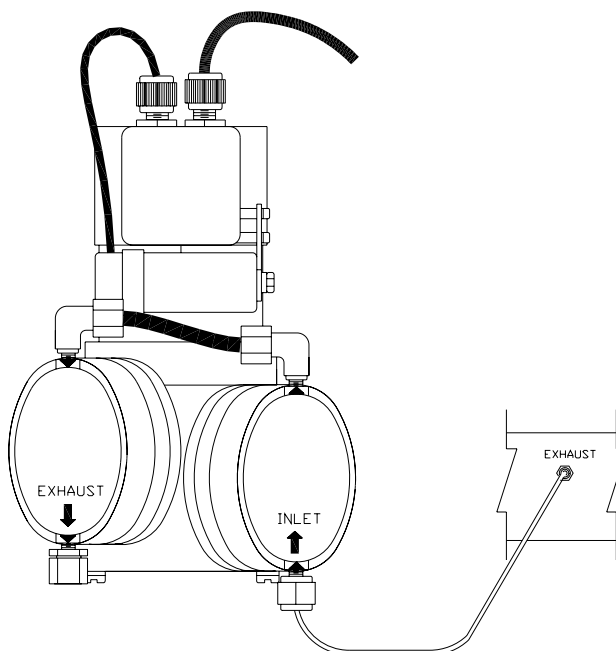

Figure 2-4. Twin-Head Vacuum Pump Installation
3. Connect the pump vacuum port (inlet) to the EXHAUST bulkhead (figure 2-4).